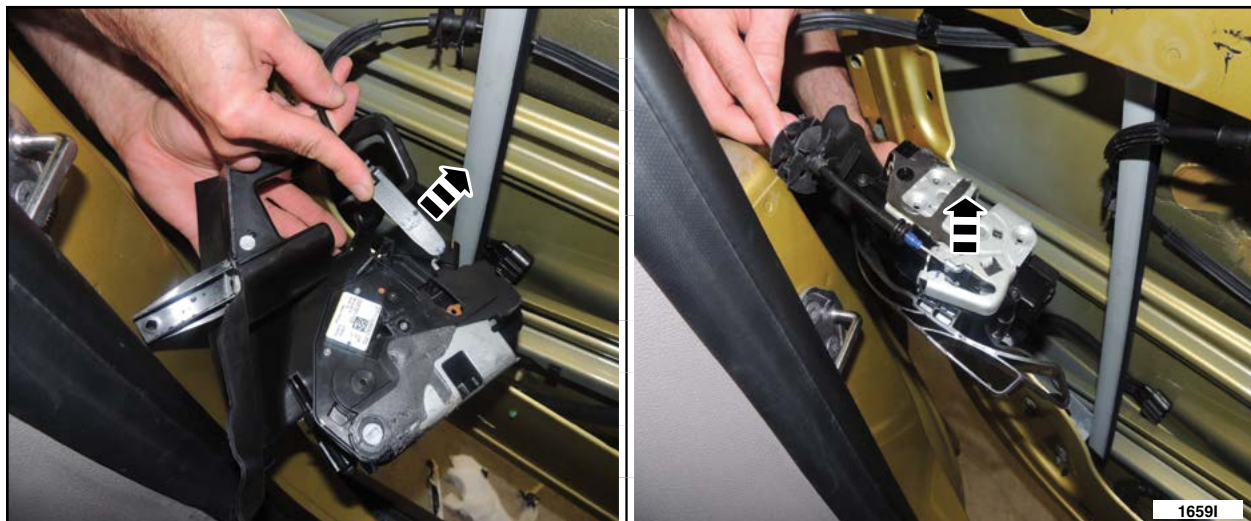

FIGURE 15
8. Disconnect the interior and exterior sliding door latch cables. Remove and discard the sliding door latch. See Figure 15.